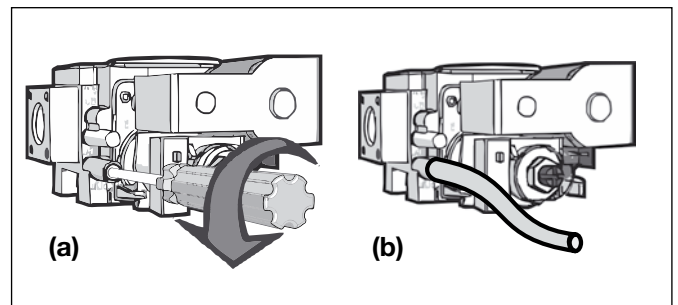

FIG 19
- The pressure point is closed with a captive screw. Turn screw 6 revolutions anticlockwise to open the pressure point as indicated on **FIG 19 (a)** and place manometer tube over the test point as per **FIG 19 (b)**.